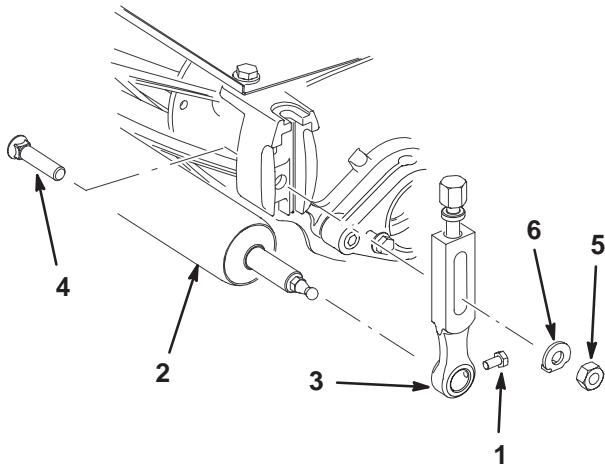

Figure 14
10. Install the front roller (Fig. 14) as follows: